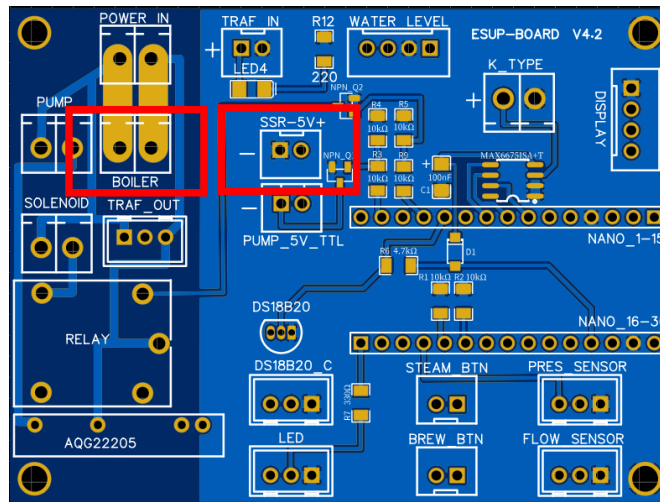

Fig. 7.3
- Connect the “SSR -5V+” and “Boiler PCB” to the main board (fig. 7.3).